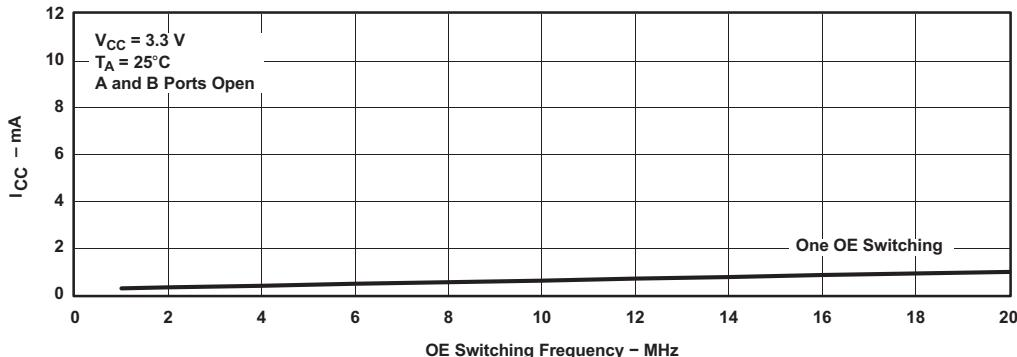

Figure 5. Typical I_{CC} vs OE Switching Frequency
(1) V_{IN} and I_{IN} refer to control inputs. V_I, V_O, I_I, and I_O refer to data pins.
(2) All typical values are at V_{CC} = 3.3 V (unless otherwise noted), T_A = 25°C.
(3) For I/O ports, the parameter I_{OZ} includes the input leakage current.
(4) This is the increase in supply current for each input that is at the specified TTL voltage level, rather than V_{CC} or GND.
(5) This parameter specifies the dynamic power-supply current associated with the operating frequency of a single control input (see Figure 5).